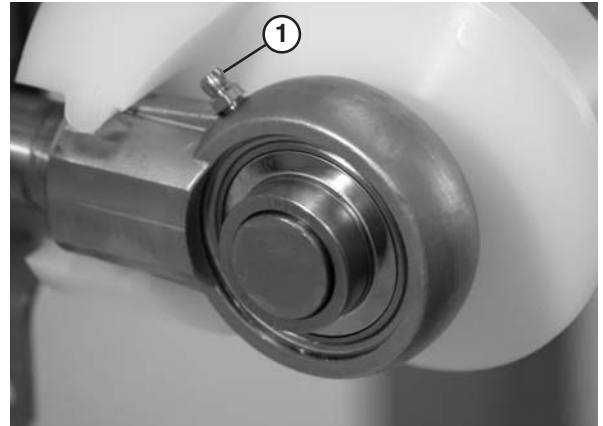

Figure 45
1. Add grease to the bearing using the zerk fitting (Figure 45, item 1) on the exterior of the bearing shaft assembly.